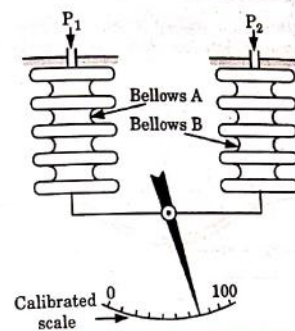

Fig. 5.21.2. Bellows element.
1. A metallic bellows is a series of circular parts, resembling the folds in an accordion as shown in Fig. 5.21.2.
5. There are three main configurations in which bellows elements are used and these are for measurement of absolute, gauge and differential pressures. These configurations may be illustrated with the help of Fig. 5.21.2.